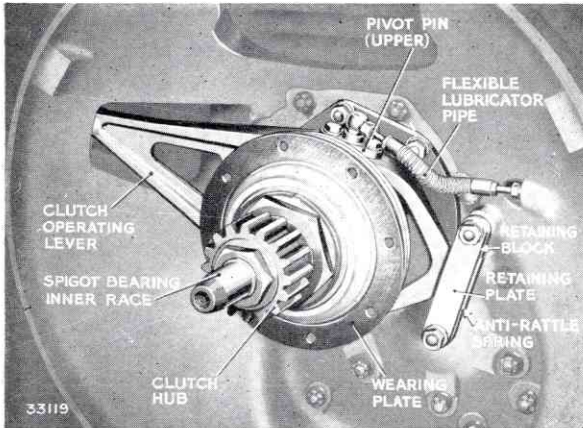

FIG. 10. THE WITHDRAWAL MECHANISM
1. Disconnect the flexible lubrication pipe shown in Figs. 10 and 11.
3. Remove the retaining plate and block shown in Fig. 10, to release the clutch operating lever.